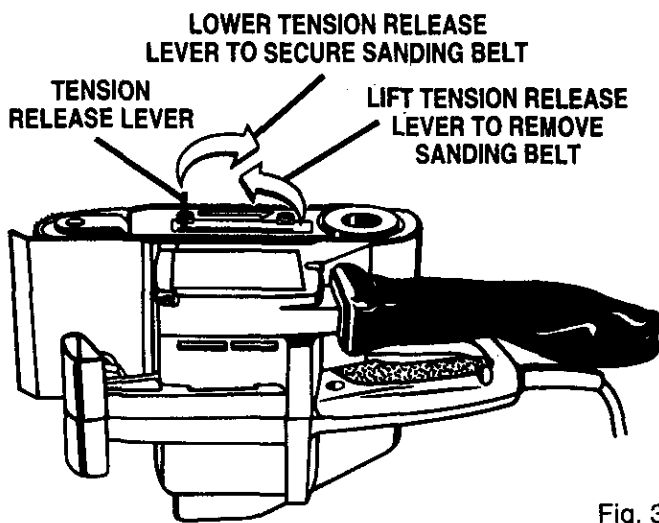

Fig. 3
- Position sander as shown in figure 3.
- Release belt tension by lifting tension release lever straight up as shown in figure 3. When sufficient force is exerted, the spring will be compressed allowing the roller to lock in a rear position. This frees the sanding belt so it can be removed.